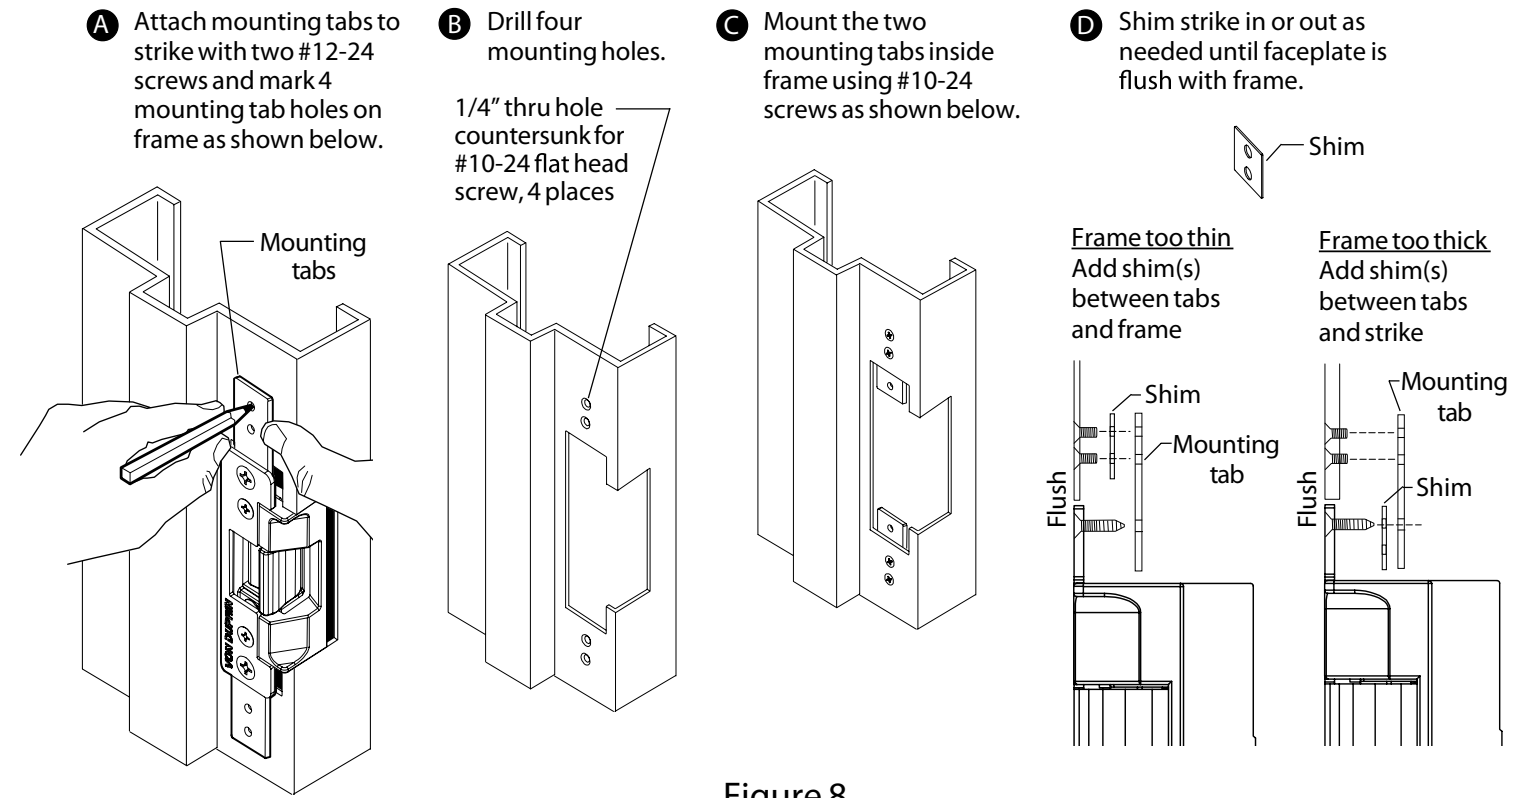

Figure 8
- If frame does not have built in mounting tabs, install mounting tabs supplied with strike as shown below (Figure 8).